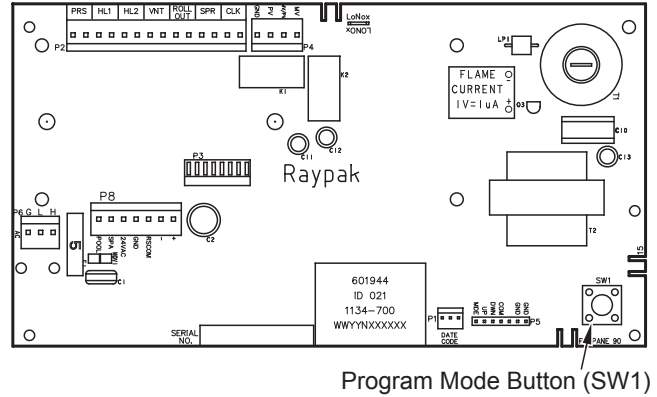

Figure 45. Thermostat Program Button (SW1)
1. Remove the four screws holding the control cover, and swing the panel down so the back side of the board is visible. Locate the Program Mode button (SW1). See **Figure 45**. Press and hold the button for 5-7 seconds until SET FACTORY DEFAULTS appears on the display. Release the program button.